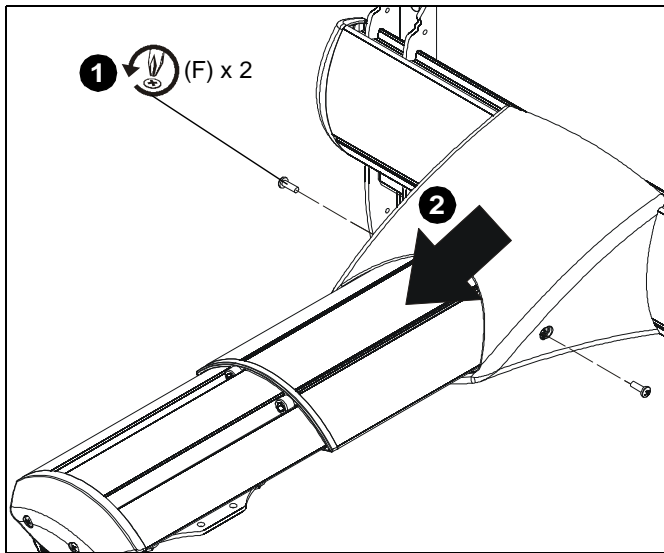

Figure 20
1. Remove two screws #8-32 x 1/2" Phillips pan machine screws (F) to release mount cover. (See Figure 20)
2. Slide mount cover away from wall mount. (See Figure 20)